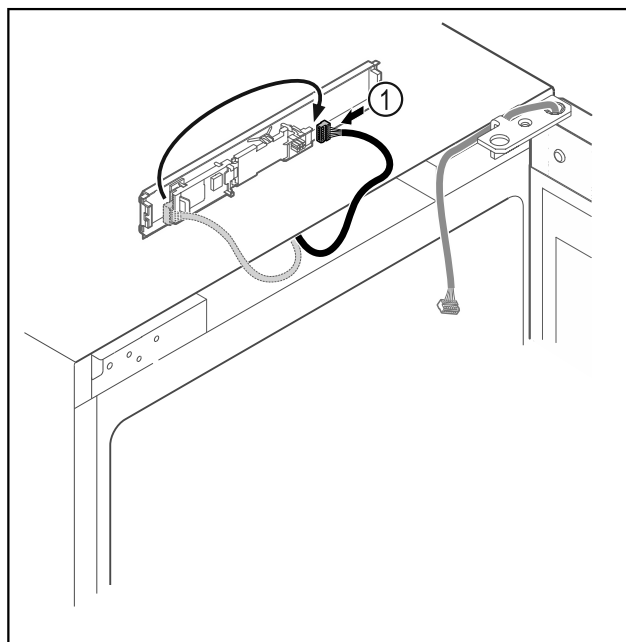

Fig. 19
- ▶ Connect the plug Fig. 19 (1) to the circuit board.